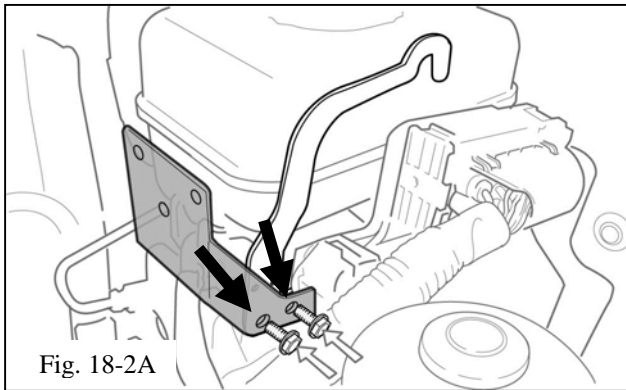

Fig. 18-2A
- (b) Use 2 M6 x 20 bolts (A15) and 1 M6 nut (A16) to mount the intercooler reservoir bracket (A14) to the 2 holes in the lifting bracket (Fig. 18-2A).